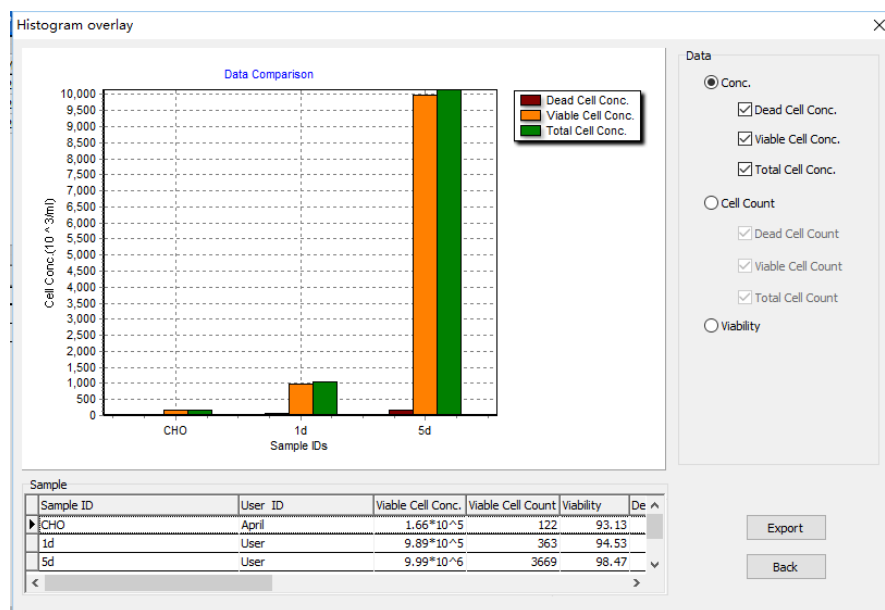

Figure 16: Histogram Overlay
4. After finishing add sample, click on **View** to see the overlay result like below. The **Histogram Overlay** (Figure 16) can be exported into .pdf format by clicking on **Export**.